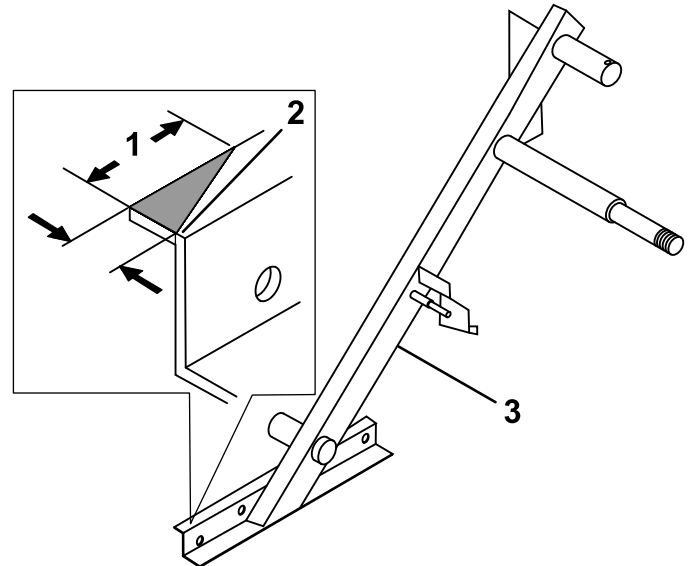

Figure 8
2. If required, use a cutting tool to remove the corner on the core-harvester frame to eliminate the interference with the front tire (Figure 8).